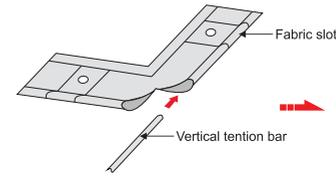

Figure 10
2. Put the tention bars to the four slots of fabric. That is a step suggested to be completed by two persons, one to hold the fabric and another to pull through the tention bars. (Figure 10 - 12)